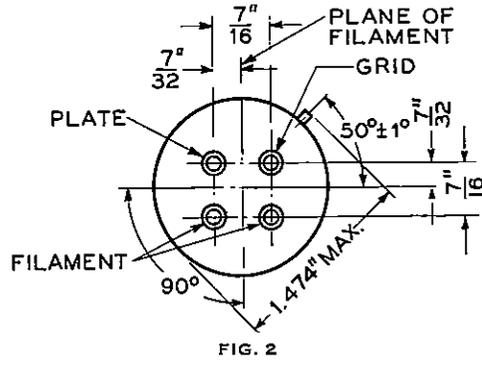

FIG. 2
**Mounting Positions**—Either vertical or horizontal. If mounted in a horizontal position, the plane of the filament, which is indicated in Figure 2, should be vertical